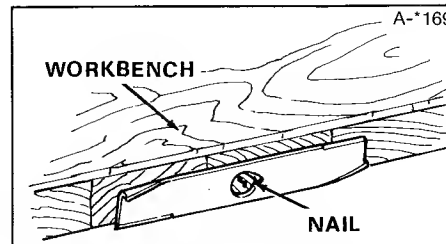

Figure 19. Balancing Blade
6. Check and balance blade. Use a balancing machine or the fixture shown in figure 19. Center the blade on a nail lubricated with a drop of oil. A bal-